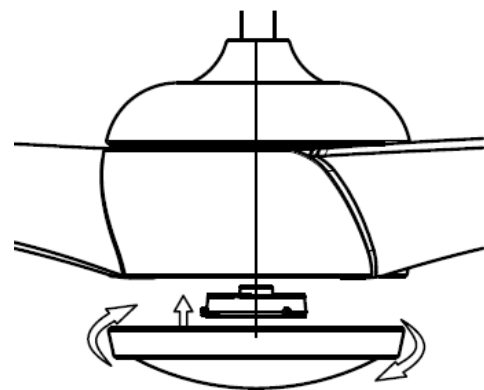

Fig. 9
- Finally, install the bottom cover to the lamp bracket by rotating it clockwise. Fig.9